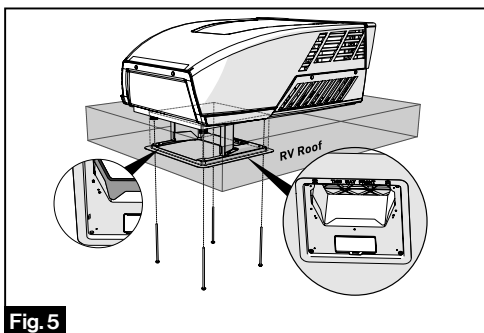

Fig. 5
4. Fix the assembled mounting frame and duct divider into the rooftop unit using 4 bolts provided. (Fig. 5)